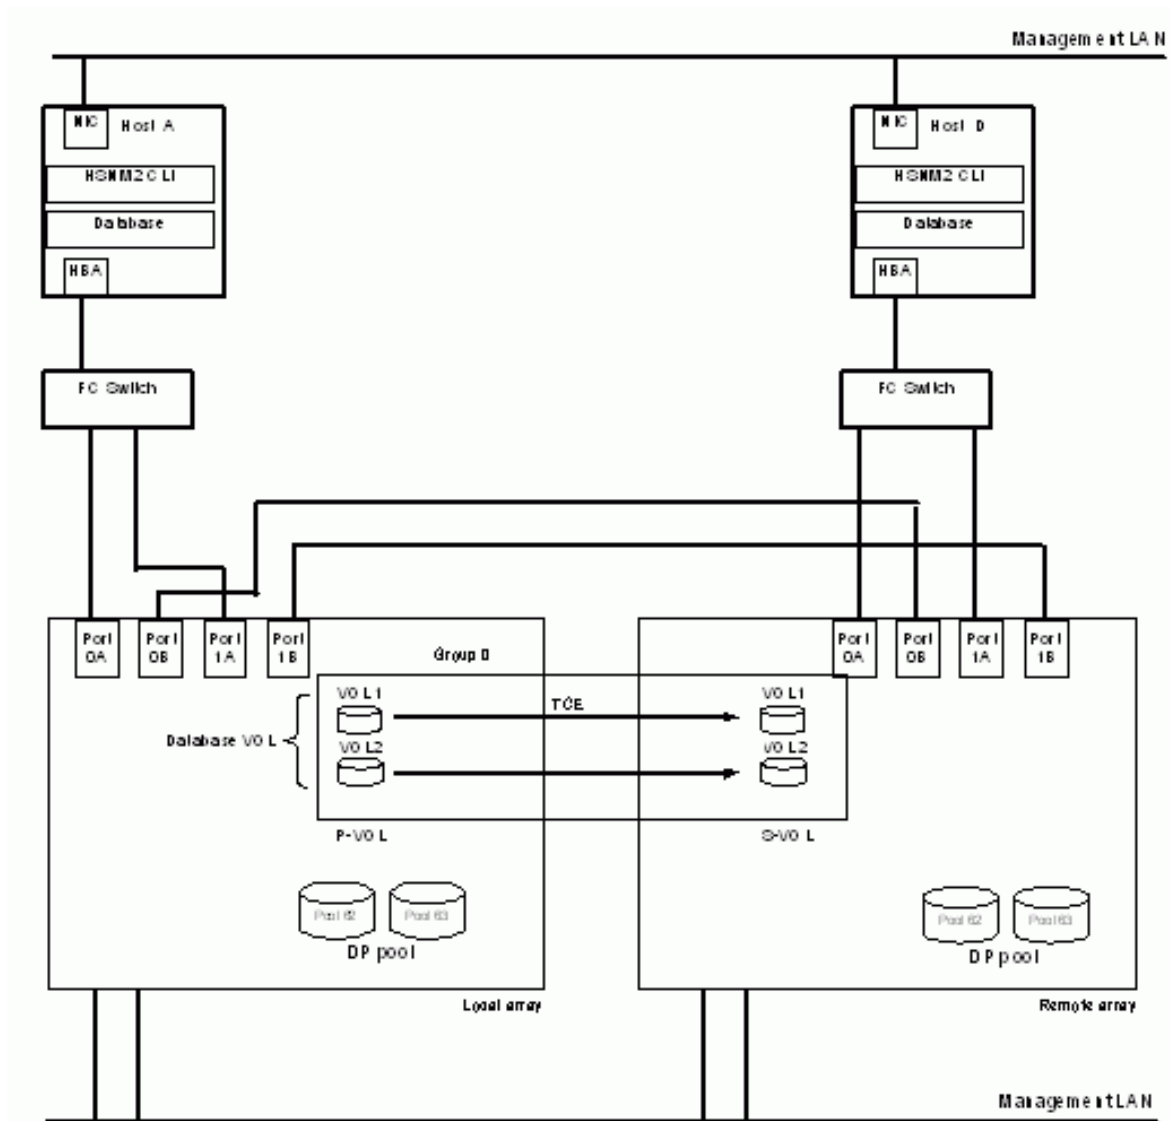

Figure 20-2: Configuration example for moving data
- A, P-VOL VOL1 and VOL2 of the local array are put in the same CTG and then are copied to S-VOL VOL1 and VOL2 of the remote array as shown in Figure 20-2.